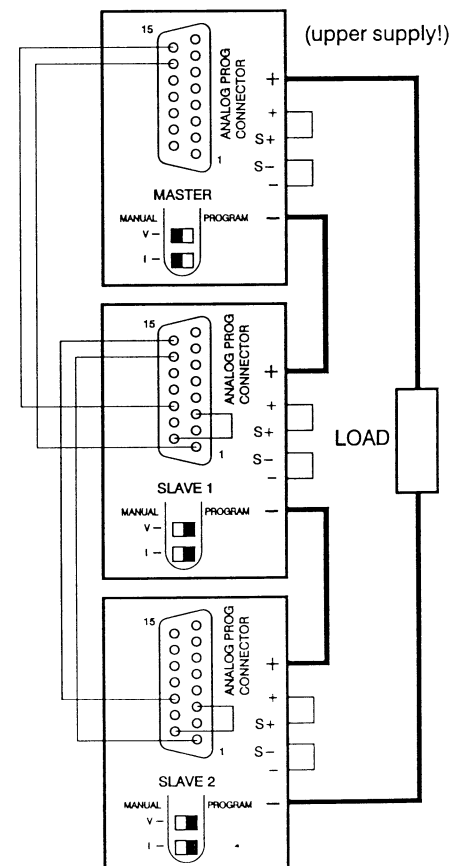

fig. 3 - 12
- Second, switch off all units. Plug in prog. connectors with the connections according to fig. 3 - 13 (buss bar topology). Always use a **shielded cable**. The shielding must be connected to the case of the supply.